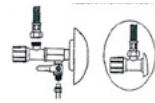

FIGURE A-2
2. After draining the remaining water in the pipes, install feedwater connection adapter (3-way adapter) by fastening with teflon band (Figure A- 2)